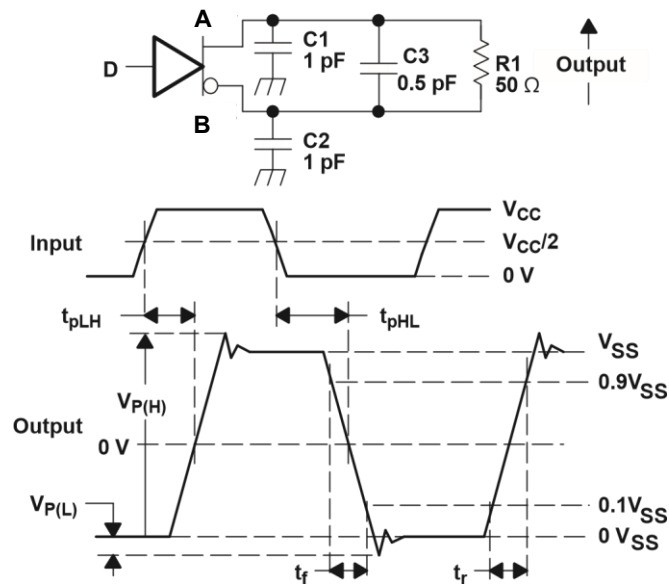

Figure 4. Driver Test Circuit, Timing, and Voltage Definitions for the Differential Output Signal
| $V_{P(H)}$                        | Voltage overshoot, low-to-high level output                            | See Figure 4   |                  |     | 1.2$V_{SS}$ | V             |
| $t_{PLH}$                        | Propagation delay time, low-to-high-level output (1) | See Figure 4 |     | 2.8 |     | ns   |